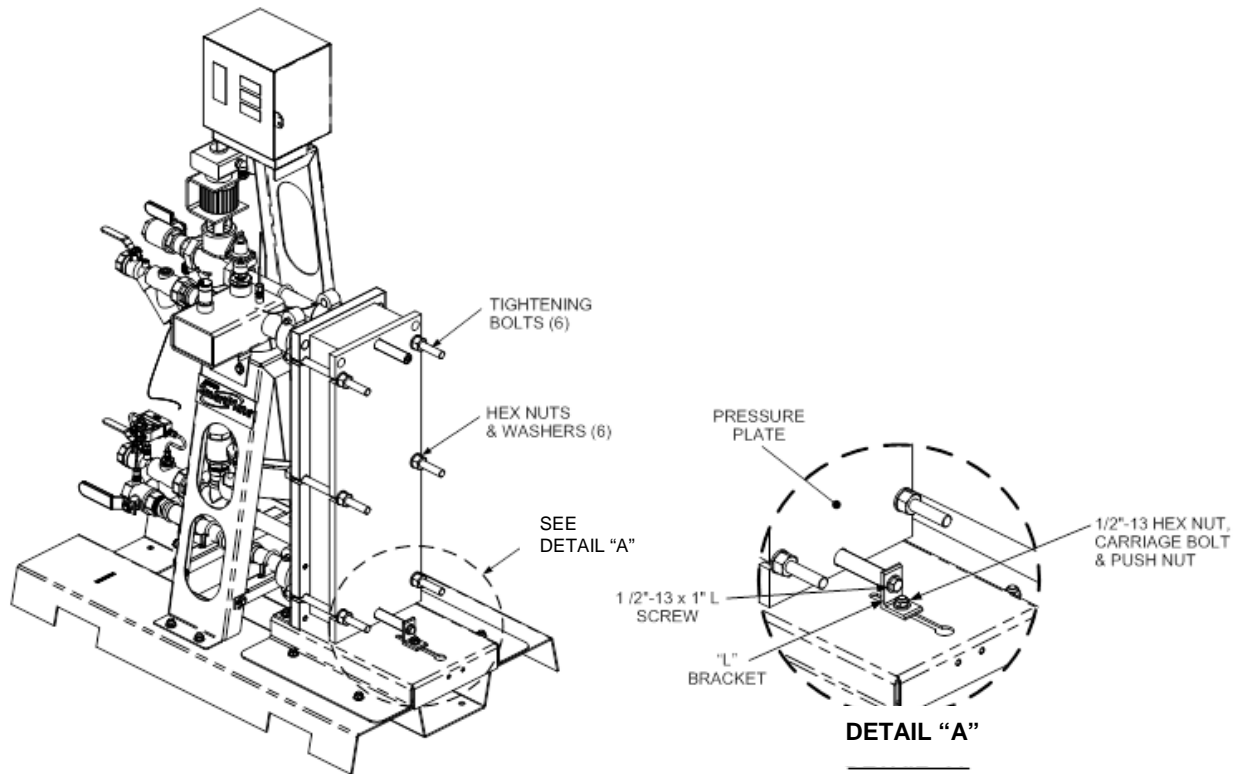

Figure 8-19. Double-Wall Heat Exchanger Mounting Details - Rear
6. Using a ratchet wrench with an extension and a 3/4" deep socket, remove the four (4) Victaulic couplings (Figure 8-19). Two (2) couplings are located on the Domestic Water Side and two (2) are located on the Boiler Water Side.
9. For smaller SmartPlate units (models SPDW23, SPDW32 SPDW42) use a 3/4" socket wrench to remove the horizontal hex head screw and washer shown in Figure 8-19. Also, remove the hex nut securing the "L" bracket to the heat exchanger mount.